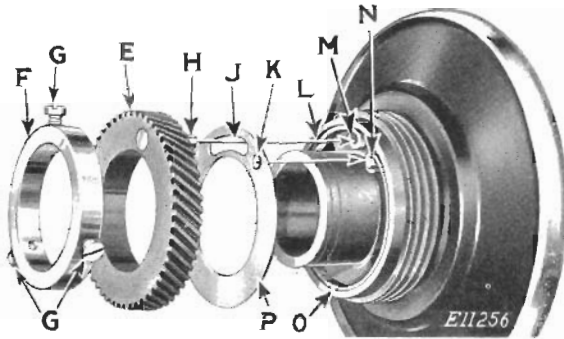

FIG. 19. BALANCE WHEEL DISASSEMBLED
Remove the balance wheel as instructed on the preceding page. Loosen the three set screws (G, Fig. 19) and remove balance
When replacing these parts, first put the shock-absorbing spring in position, as shown by Fig. 19, with the right hand loop of the spring about the middle pin (N). Then place the spring retaining washer (P) so that the round pin hole (K) engages the pin (N) on which is placed the right hand loop of the shock-absorbing spring (O), as indicated by the unlettered arrow leading from pin-hole (K) to pin (N).
Replace the gear collar (F, Fig. 19) which retains the textolite gear (E) in place on the balance wheel hub. This collar (F) should be so placed against the textolite gear (E) as to prevent side play, but not to retard the free oscillating movement of the gear during the functioning of the shock-absorbing spring. The use of a .003" feeler gauge or a piece of ordinary note paper, between gear collar and textolite gear, will establish the proper position of collar (F) relative to textolite gear (E). When collar (F) is properly positioned, tighten the three set screws (G).